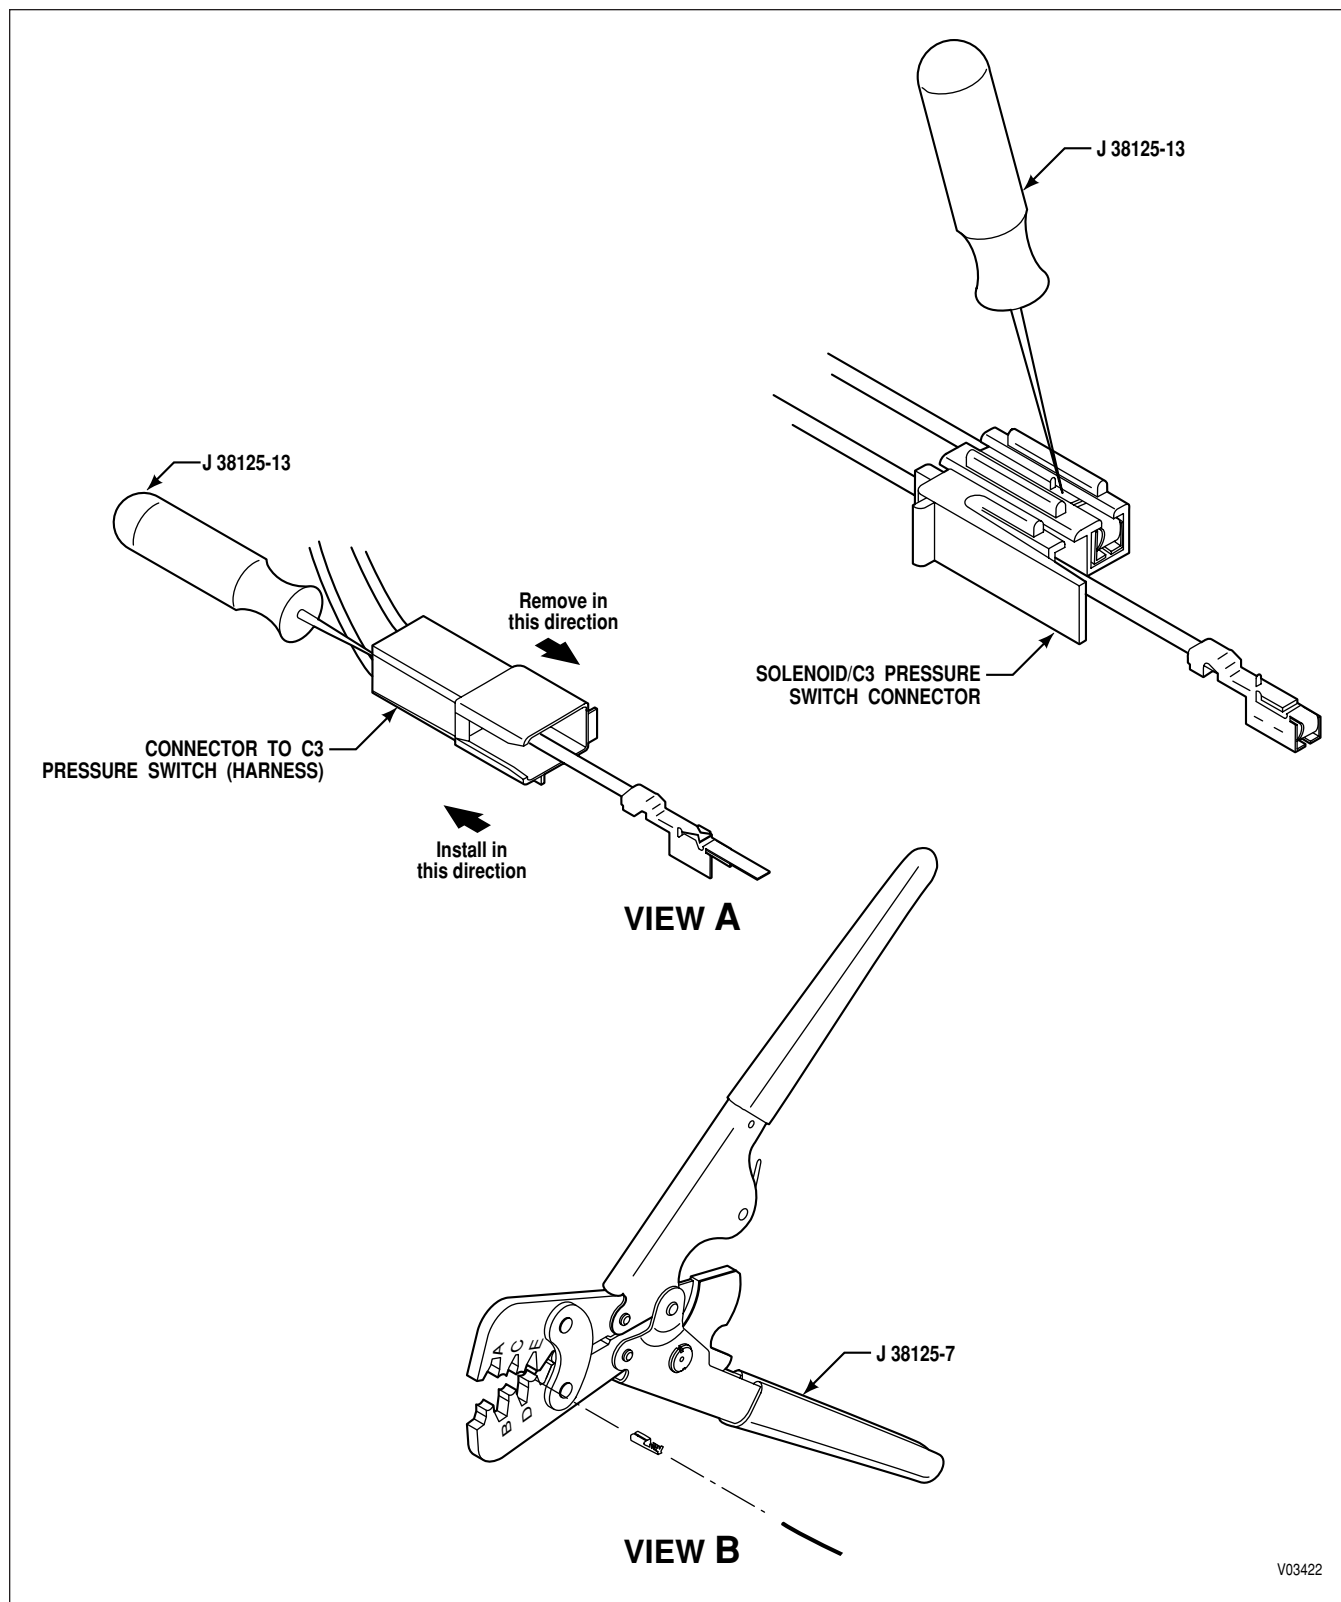

Figure E-9. Delphi-Packard Metri-Pack 280 Series Connectors—Pull-to-Seat
1. Depress locktab on terminal (accessible in slot of connector) and push terminal out front of connector (Figure E-9, View A).
2. Place core crimp portion of terminal on bed of anvil indicated and squeeze crimper enough to hold terminal from dropping (Figure E-9, View B).